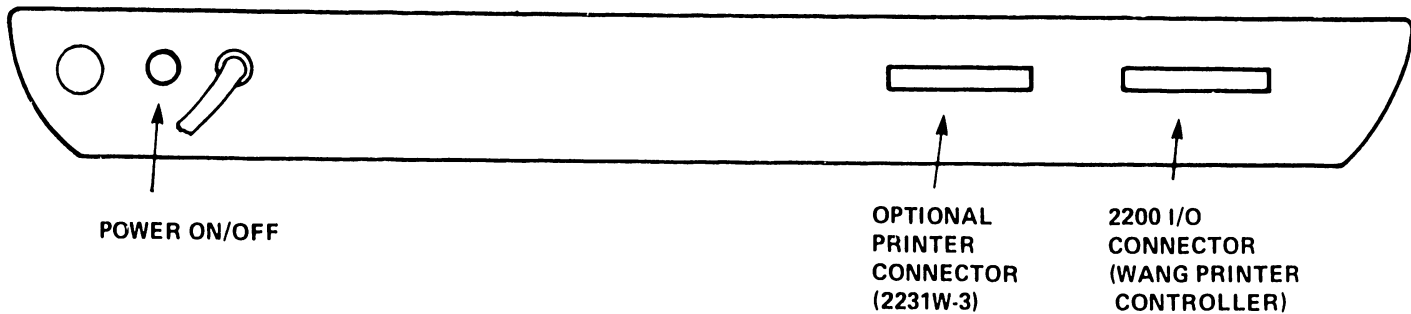

FIGURE 1
1.3 2282 CHASSIS LAYOUT (See Figure 1)